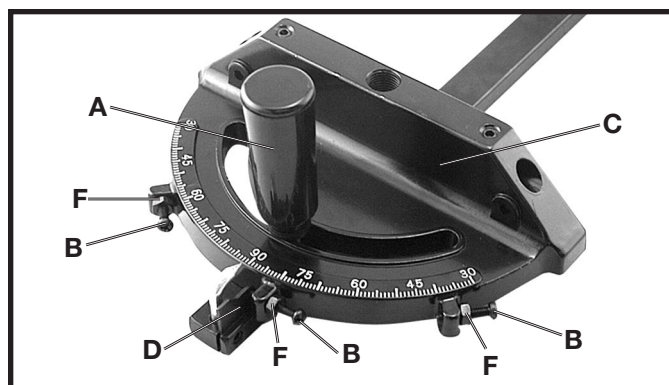

Fig. 46
1. The miter gage is equipped with adjustable index stops at 90 degrees and 45 degrees right and left. Adjustment to the index stops can be made by loosening nuts (F) Fig. 46, and tightening or loosening the three adjusting screws (B).
2. To rotate the miter gage, loosen handle (A) Fig. 46, flip the stop link (D) down and out of the way, and move the body of the miter gage (C), to the desired angle.
3. The miter gage body (C) can stop at 90 degrees and 45 degrees both right and left by flipping the stop link (D) back up so that the stop link (D) will be able to contact the adjusting screws (B) at the desired 90 or 45 degree angle. To rotate the miter gage body past these points, the stop link (D) Fig. 46, must be down and out of the way.